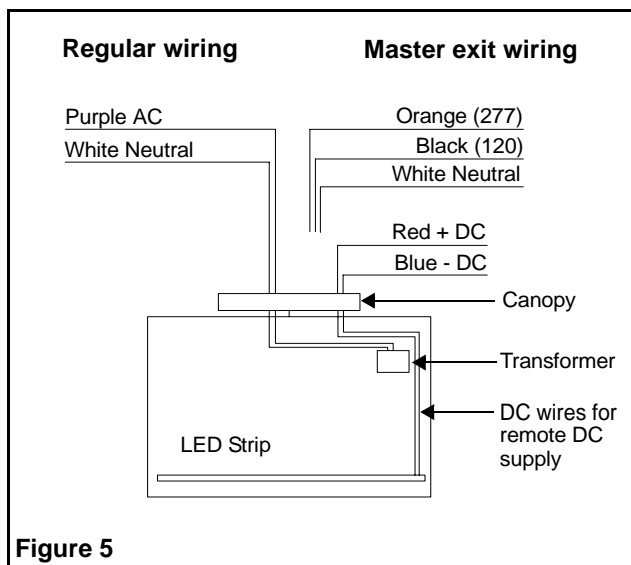

Figure 5
- g. Route the AC supply wires and ground wire from the exit through the rectangular hole in the exit housing and through the slot in canopy. Make the proper connection. Our system can accept input voltages from 120 to 347 VAC. Therefore, connect the purple (hot) and white (common) leads to the building utility (see fig. 5). For master exit sign wiring, connect the orange (277 VAC) or the black (120 VAC) and the white (neutral) to the building utility. Feed the excess wire into the junction box.
- d. Make the proper connections. Our system can accept input voltages from 120 to 347 VAC. Therefore, connect the purple (hot) and white (common) leads to the building utility. For master exit sign wiring, connect the orange (277 VAC) or the black (120 VAC) and the white (neutral) to the building utility. Feed excess wire into the junction box (see fig. 5)
Refer to fig. 5 for AC & DC wiring.